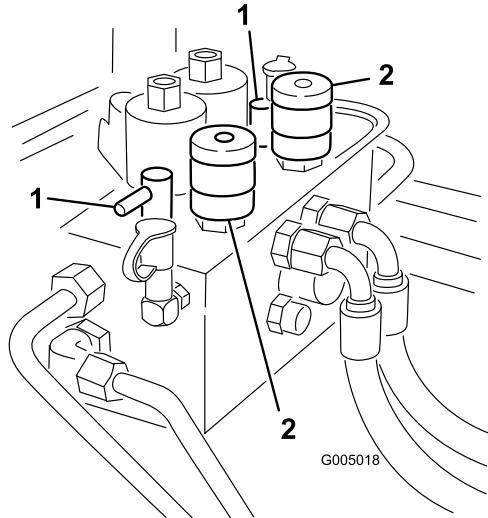

Figure 84
- Locate the reel speed selector knobs and backlap knobs (Figure 84). Rotate the desired backlap knob(s) to the backlap position and the desired reel speed selector knob(s) to position 1.